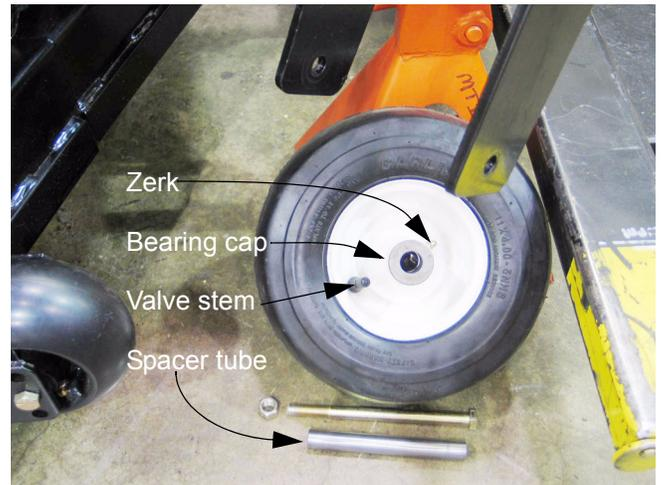

Figure 27.3
27.3. The front wheels can be removed from the yokes using a pair of 3/4" wrenches. See Figure 27.3.